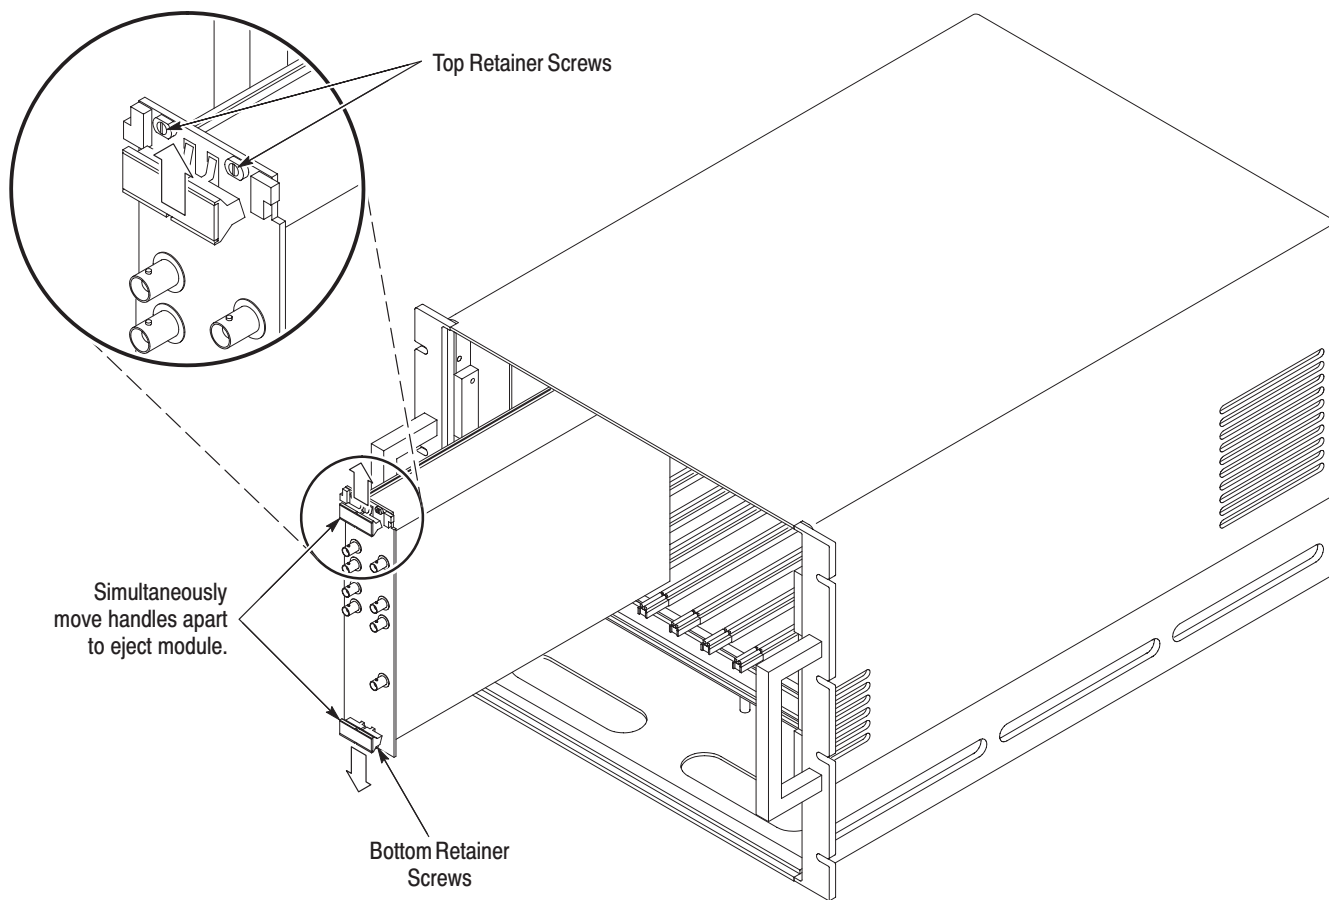

Figure 1–2: Module Retainer Screws and Ejector Mechanism
The logical address switch (Figure 1–1) is located beneath the right cover. The 8-section switch has the following characteristics:
1. Use a screwdriver with a size T-10 Torx® tip to remove six screws (Figure 1–1), then lift off the right cover.
Use the following installation procedure and Figure 1–2 on page 1–8 to install the waveform generator into the mainframe:
3. Insert the module into the mainframe top and bottom module guides and push it partially into the mainframe (Figure 1–2). Then slide the module into the mainframe as far as it will go without forcing it.
2. Use a flat-bladed screwdriver to loosen the top and bottom retainer screws (Figure 1–2).